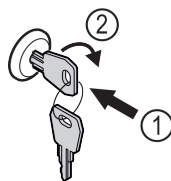

Fig. 191
- ▶ Insert the key. Fig. 191 (1)
- ▶ Turn the key clockwise by 90°. Fig. 191 (2)